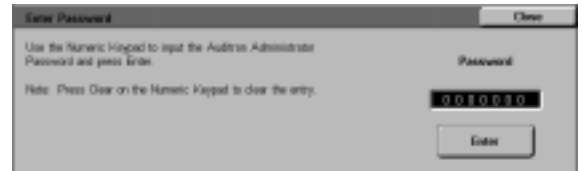

Figure 6: Enter Password screen
- 2 Touch the **Auditron Administration** button on the screen to display the Enter Password screen, as illustrated in Figure 6.